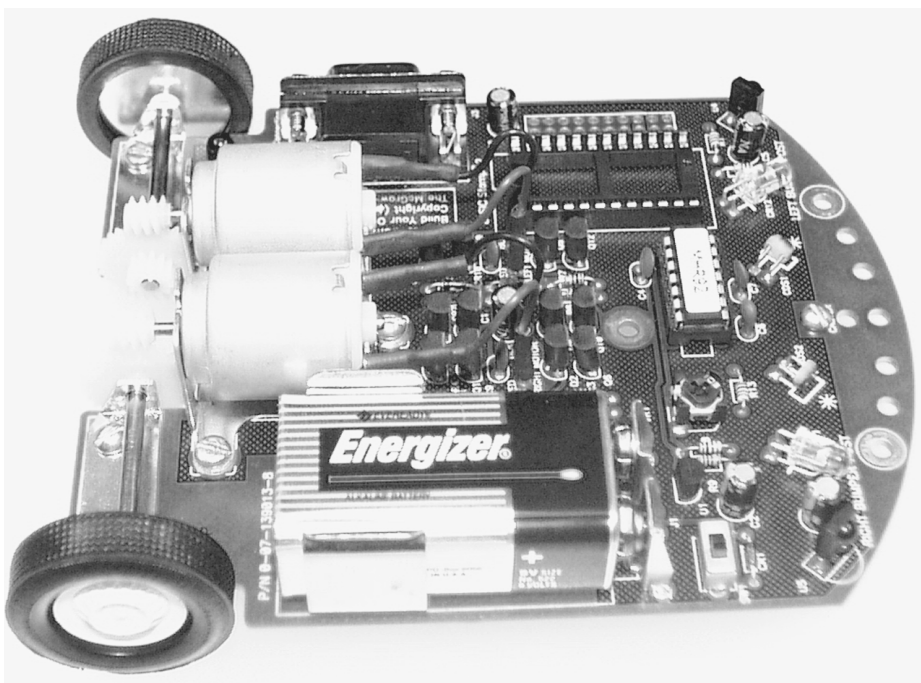

Figure 1-10 Motors installed and wired into the robot.
Step 6. Mount the motor bracket to the robot, as shown in Figure 1-10. After the motor bracket is screwed down (using lock washers and nuts as discussed in the previous step), connect the red wire assemblies to the posts marked “RED” on the robot, and then connect the black wire assemblies to the posts marked “BLACK.”